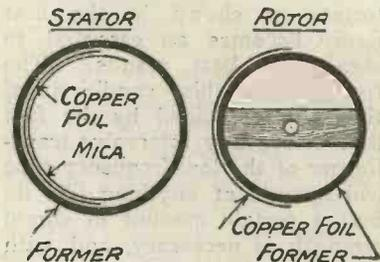
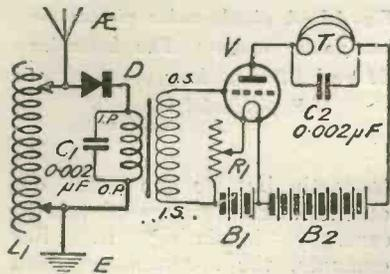

Fig. 2—The arrangement of the copper foils.
Fig. 1—Circuit showing usual method of adding a low-frequency valve, using a transformer.
THE items required for the construction of this condenser are two cardboard formers, one having an internal diameter of say, 3 in., and the other having an external diameter of just under 3 in., some copper foil and mica, a piece of 2B.A. rod, and an ebonite knob, scale, and pointer. Cut both the formers to an equal length, which may be as desired, according to the capacity required. On the inside of the larger former lay one strip of copper foil and then one of mica; these should cover half the circumference, the mica overlapping the foil at each end. The strip may be fixed by pinning and gluing. Next fix a strip of copper foil round half the external diameter of the smaller former. A piece of wood is now fixed across the internal diameter of the inner former, as shown in Fig. 2. A
**I**N the case of crystal receivers where one or more stages of low-frequency amplification are added, the more usual course to adopt is to connect the primary of an intervalve-transformer in series with the crystal and earth, as indicated in Fig. 1. Experiments conducted recently with this arrangement indicate that when signals are *dead weak*, using the crystal receiver *without any low-frequency stage*, the addition of a transformer-coupled low-frequency valve does not appreciably increase signal strength, compared with the arrangement of adding a valve *without the transformer*, as indicated in Fig. 2. Before proceeding further it must be thoroughly understood that this condition only holds good so long as the signals, when using the crystal receiver alone, are *dead weak*. In the case of adding a low-frequency valve to a crystal set upon which loud signals can already be comfortably received, then the inclusion of the transformer as shown in the first figure becomes an essential to obtain the best results. The reason for this condition of things is explained by the fact that before any intervalve transformer of the low-frequency type will operate at anything like its best a certain amount of signal strength is necessary, and with crystal receivers used twenty or more miles away from a broadcasting station such a strength is not in many instances obtainable.